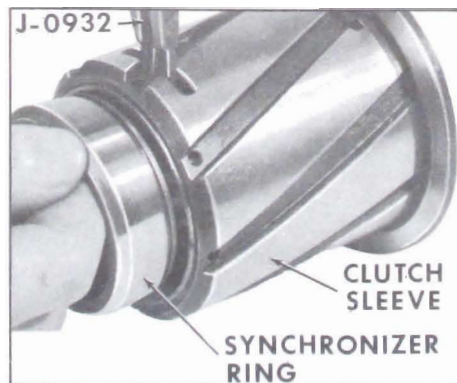

Figure 4-29—Removing Synchronizing Rings
3. Using Tool J-0932, expand the retainer into the counterbore in the clutch sleeve. This raises the retainer from the groove in the ring so that the ring may be easily slipped out. See Figure 4-29.